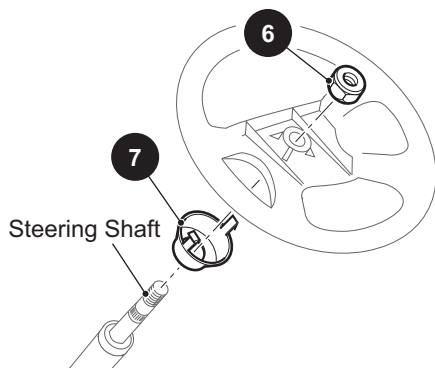

**Figure 20 Clipboard Removal**
- From the front side of the steering wheel (4), remove the steering wheel cover by pulling straight up on the bottom of the steering wheel cover to release the two bottom retaining tabs. Using thumb for leverage as shown, reach from behind the steering wheel with fingertips to first pull down, and then push up to release the two top clipboard retaining tabs (Figure 20).
8. Inspect the four retaining tabs on the clipboard (5) for white stress lines (Figure 20). If stress lines are present, replace clipboard. Install by carefully pressing the top two, and the bottom two retaining tabs into the matching slots in the steering wheel.